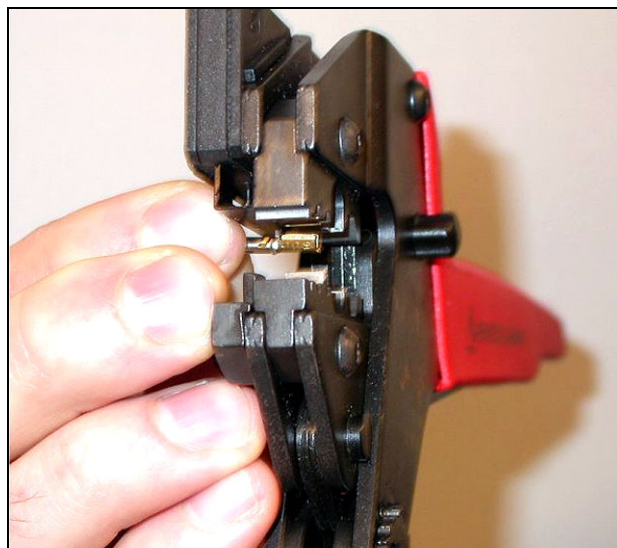
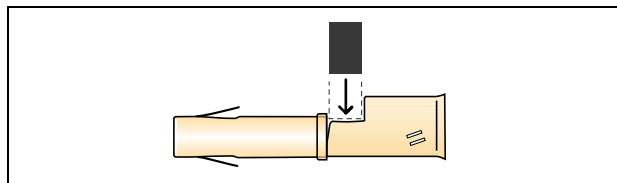

figure 45.12: Crimping a socket contact (1)
figure 45.13: Crimping a socket contact (2)
- 11 Put a socket contact in the crimping tool (tool 3, refer to figure 45.12). The upper part of the crimping tool contains a ridge to put the socket contact correctly in the tool (refer to figure 45.13).